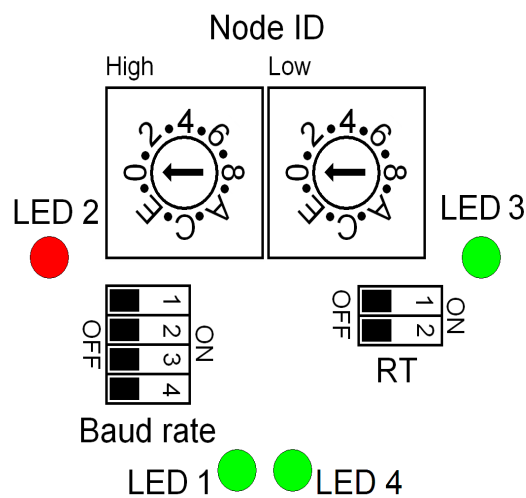

Figure 3: Dip-Switches and diagnostic LEDs
4.3 Dip-Switches and diagnostic LEDs (Figure 3)
4.3.1 Diagnostic LEDs (Figure 3)
4.3.2 Setting the address node: Node ID (Figure 3)
4.3.3 Setting the data transmission rate: Baud rate (Figure 3)
4.3.4 RT bus termination (Figure 3)